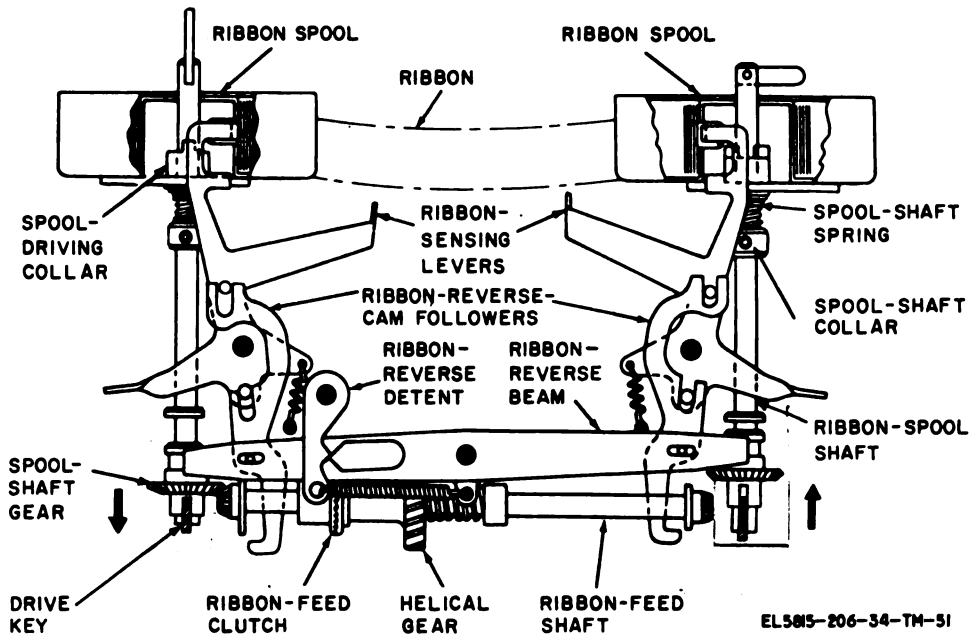
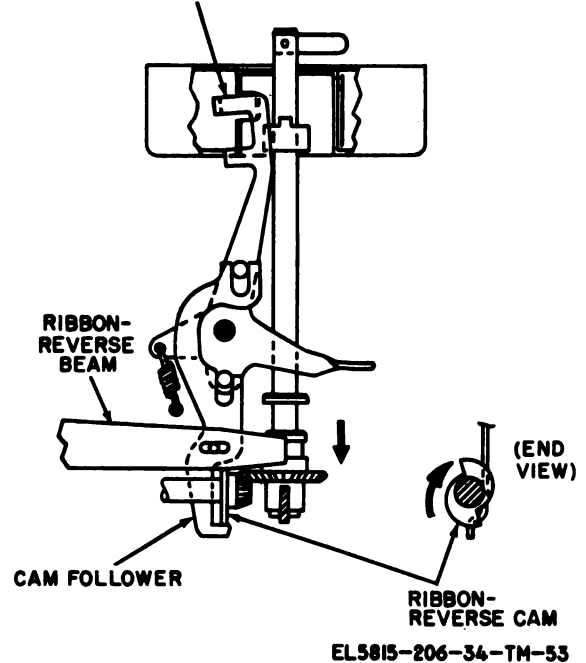

Figure 2-51. Ribbon-feed mechanism positioned for feeding ribbon from right ribbon spool to left ribbon spool (TT-4A/TG, TT-4B/TG, TT-698/TG and TT-698A/TG ).
Figure 2-53. Ribbon reverse mechanism.
Two ribbon spools and enough ribbon to fill one of the spools are mounted on the carriage (fig. 2-51). During operation of the page printer, one of the spools turns slowly to pull the ribbon from the opposite spool (*a* below). When the ribbon is almost completely wound on one spool, the ribbon-reverse operation (*b* below) reverses the direction of ribbon feed.
**b. Ribbon-Reverse Operation.** The ribbon-reverse beam, ribbon-reverse cam, ribbon-reverse cam follower, and ribbon-sensing lever on each side of the ribbon-feed mechanism (fig. 2-51) are used to reverse the direction of ribbon feed.
(1) When the left end of the beam is in the downward position, the left spool-shaft gear is in mesh with its associated bevel gear on the end of the ribbon-feed shaft. Operation of the page printer causes the left ribbon spool to rotate, pulling the ribbon from the ribbon spool on the right side of the ribbon-feed mechanism.
(2) When the final turn of ribbon is being unwound from the right ribbon spool, the upper end of the right ribbon-sensing lever (fig. 2-53) moves to the left, through an opening in the hub of the ribbon spool. The lower end of the cam follower moves under the ribbon-reverse cam on the right end of the ribbon-feed shaft. Continued rotation of the shaft causes the cam to push the cam follower downward, pulling the right end of the ribbon-reverse beam downward. The right spool-shaft gear also moves downward into engagement with its associated gear on the ribbon-feed shaft; the left spool-shaft gear moves upward out of engagement with its associated gear; and the direction of ribbon feed is reversed.
(3) When the carriage moves to the left margin during the carriage-return operation, the helical gear rotates very rapidly in a direction opposite the normal ribbon-feeding direction. The ribbon-feed shaft remains motionless during the carriage-return operation because the helical gear moves to the right against the pressure of its spring, and the ribbon-feed clutch members are kept out of engagement until the carriage stops at the left margin.